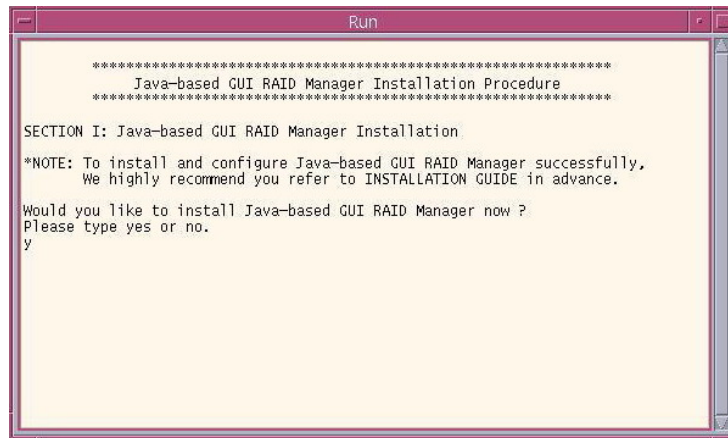

Figure 3-4: The "Run" Window
-  **Step 5.** A **Run** window prompt will display. (See **Figure 3-4**) To install the Java-based GUI RAIDWatch manager main program, type **YES** and then press **Enter**. This will launch RAIDWatch manager install shield. Please refer to **Section 3.4.5** for step-by-step installation procedures.